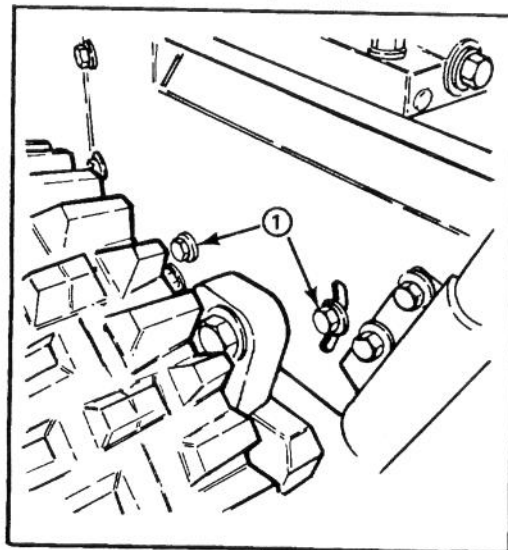

Figure 26
3. Loosen (4) flange head capscrews (2 each side) securing transmission frame to engine frame (Fig. 26).